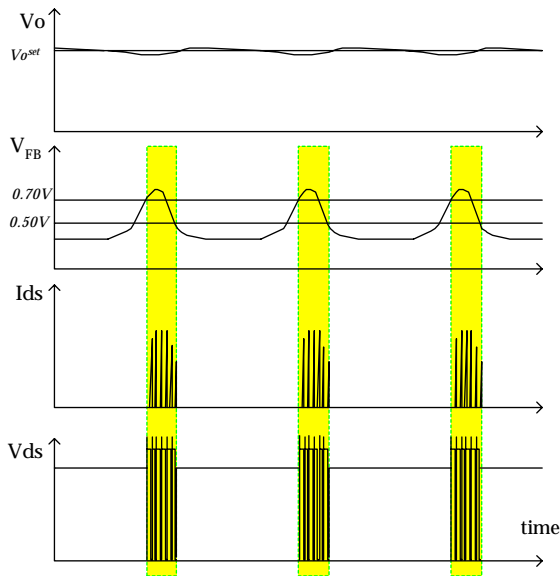

Figure 9. Waveforms of burst operation
**4. Burst Mode Operation :** In order to minimize the power dissipation in the standby mode, FSD1000 has burst operation for the auxiliary power. The FPS enters into the burst mode when the feedback voltage decreases as the load decreases. The operation principle of the burst mode is illustrated in Figure 9. When the feedback voltage drops below 0.5V, the FPS stops the switching operation. Then, the output voltage decreases below the set voltage, which increases the feedback voltage. When the feedback voltage rises above 0.7V, the FPS resumes the switching operation and the feedback voltage decreases. When the feedback voltage drops below 0.5V again, the FPS ceases the